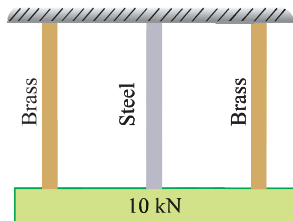

Fig. 4.15
- Three long parallel wires equal in length are supporting a rigid bar connected at their bottoms as shown in Fig. 4.15. If the cross-sectional area of each wire is 100 mm^2 , calculate the stresses in each wire. Take $E_B = 100 \text{ GPa}$ and $E_S = 200 \text{ GPa}$. [Ans. $\sigma_B = 25 \text{ MPa}$; $\sigma_S = 50 \text{ MPa}$]